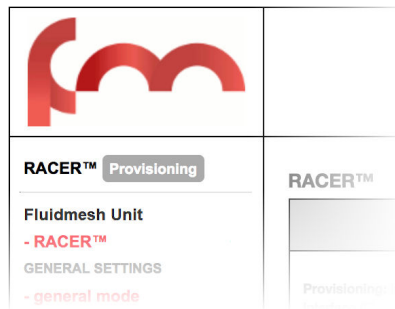

Figure 15. FM Racer status icon (Provisioning Mode)
- Check that the unit is in Provisioning Mode by looking at the colored icon to the right of the **RACER™** tag in the upper left-hand corner of the screen (Figure 15 \(page 53\)).